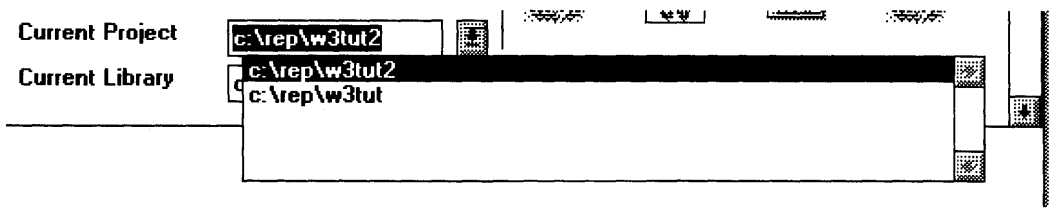

Figure 2-4. Setting the Current Project (IBM PCs and compatibles)
2. Select a project from the list (Figure 2-4).